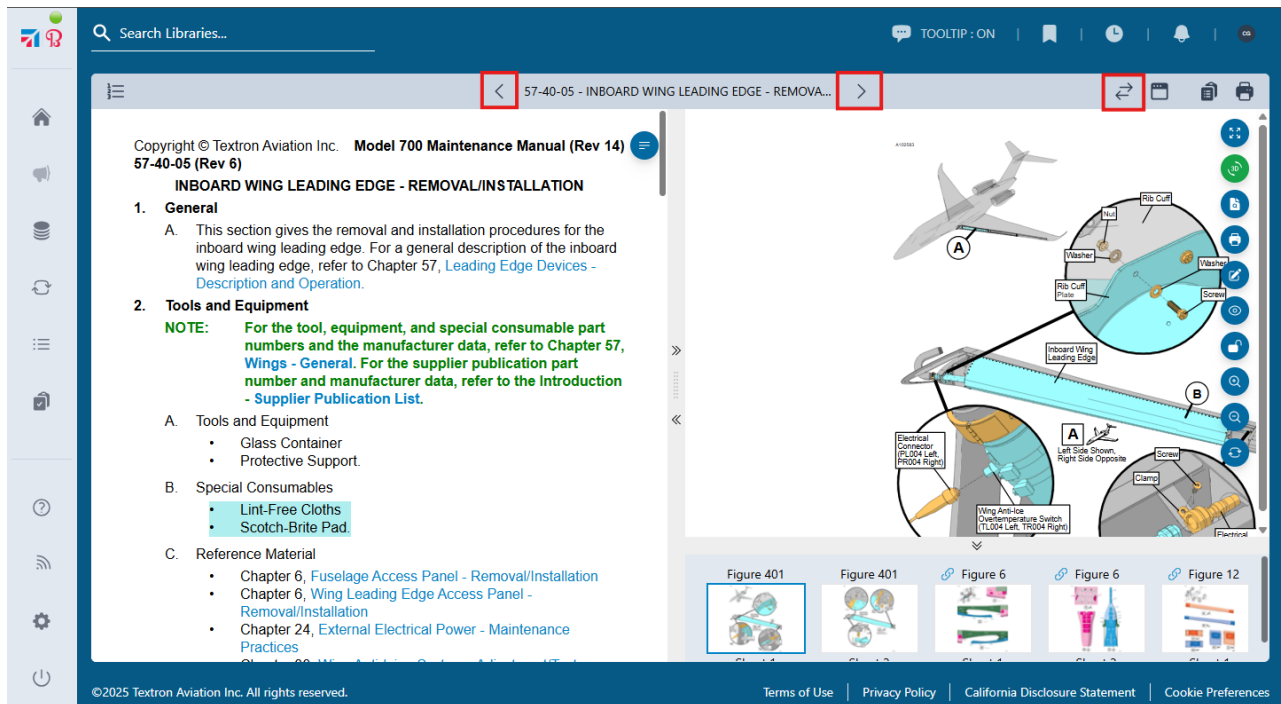

Figure 7 - Previous and Next Document Arrows, and Swap Panels Icon.
- Navigate between documents with the left and right arrows highlighted here (Refer to Figure 7).